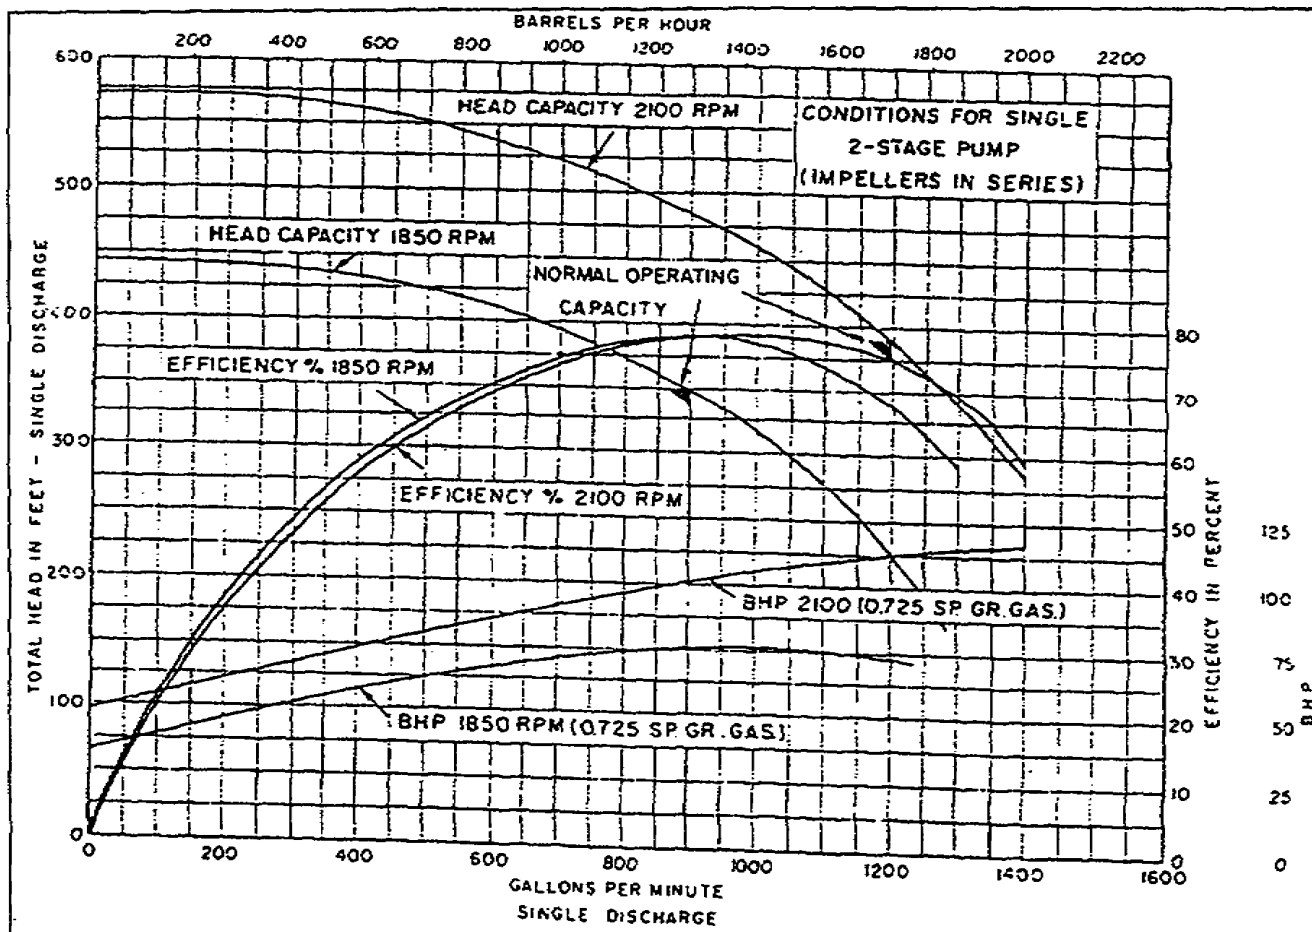

Figure 8. Operating characteristics of 6-inch, two-stage pump: impellers in series
g. Increasing or decreasing pump speed raises or lowers both head capacity and flow rate as shown in Figure 8. When the pumps in the station are in series, all the pumps should be operated at about the same speed, because each pump handles the full stream. None of the pumps should be operated at speeds lower than 1,200 RPM except when idling.